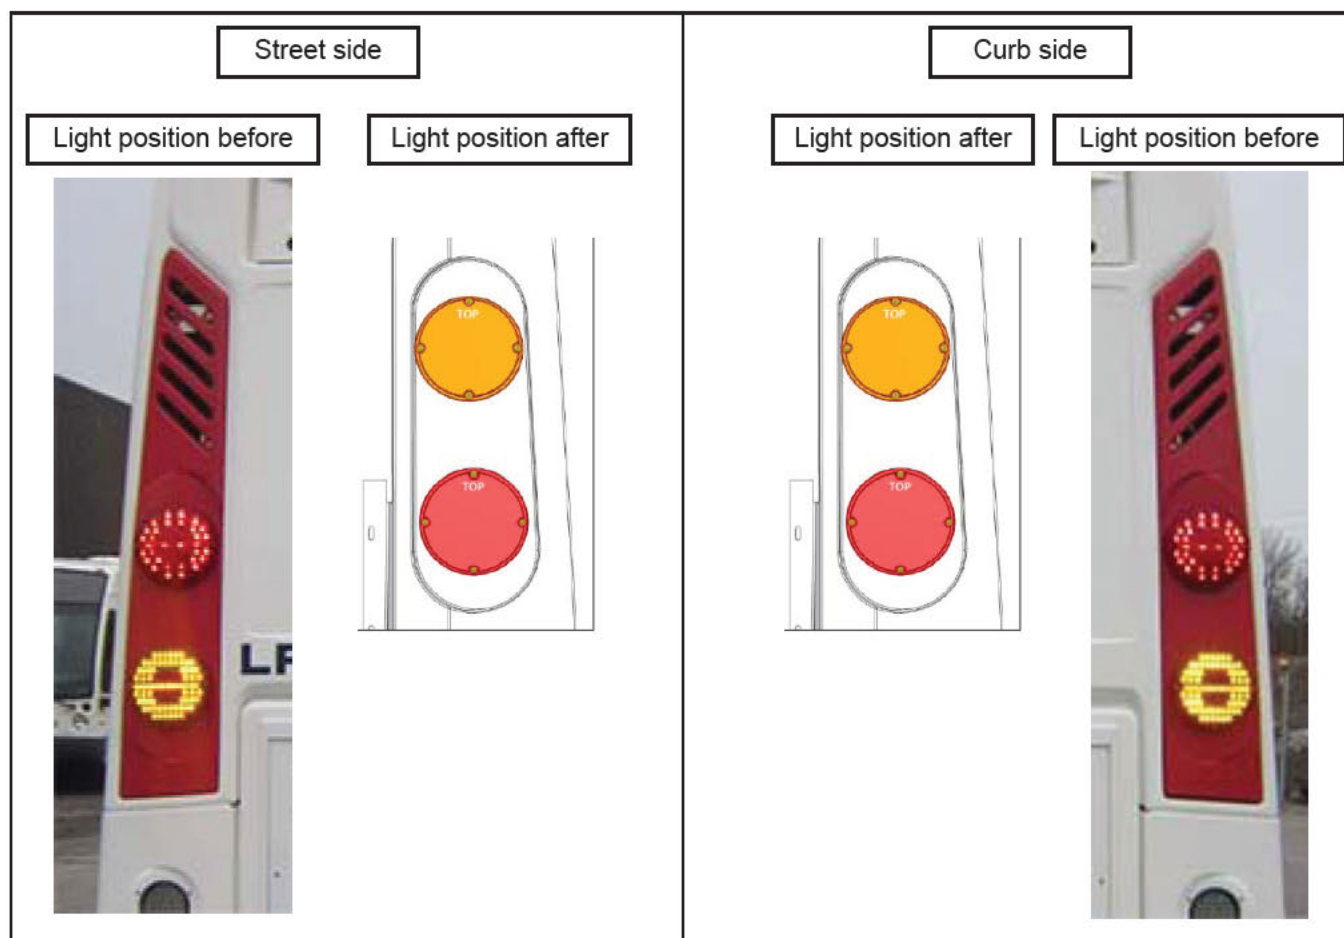

Figure 2 - Stop Lamp New Position
- 1.3. Install the stop lamp at the bottom position and the other lamp at the top position on the removed curb side stop and flasher light panel. See Figure 2.
- 1.5. Install the stop lamp at the bottom position and the other lamp at the top position on the removed street side stop and flasher light panel. See Figure 2.
Position the TOP mark at the top of both lamps when fixing the lamps to the light panel. See Figure 2.